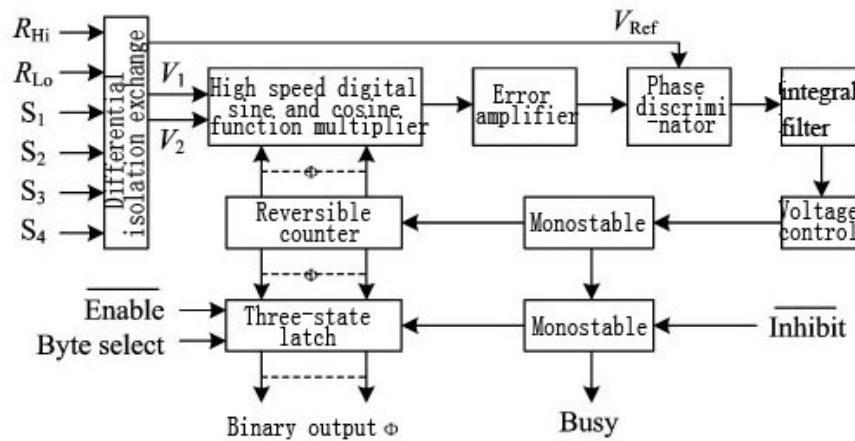

Fig.2 Block diagram for operating principle
5. Operating principle (Fig. 2)
The signals are sent to voltage controlled oscillator after amplification, phase discrimination and integration filtration, if $\theta - \phi \neq 0$, the voltage controlled oscillator will output pulse to change the data in the reversible counter, till $\theta - \phi$ becomes zero within the accuracy of the converter, during this process, the converter tracks the change of input angle θ all the time. For the block diagram of working principle, see Fig. 2.